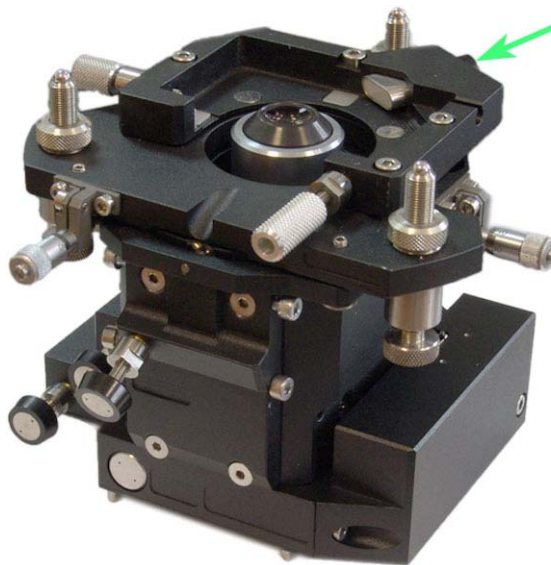

Fig. 11-4. Measuring head.
2. Pull the clamp (see Fig. 11-4).